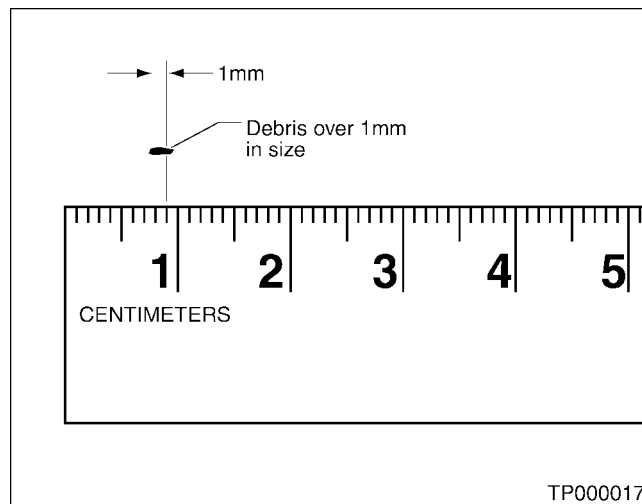

Figure 11
- B. If **one or more pieces** of debris are found that are over 1 mm in size (see Figure 11) and/or peeled clutch facing material is found in the coffee filter, the oil-cooler is not serviceable. The radiator/oil cooler must be replaced.